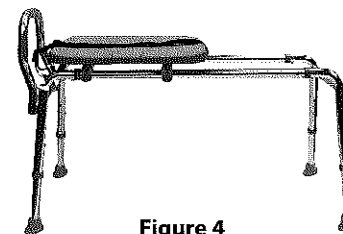

Figure 4
8. Next, insert the 4 legs (Part E) into the leg frames (*as shown in Figure 4*). Set the bench height by using the same button-hole location for each leg. Make sure the buttons snap firmly into place. **For your safety, adjust the rubber tips on the legs by turning them outward for maximum floor contact.**